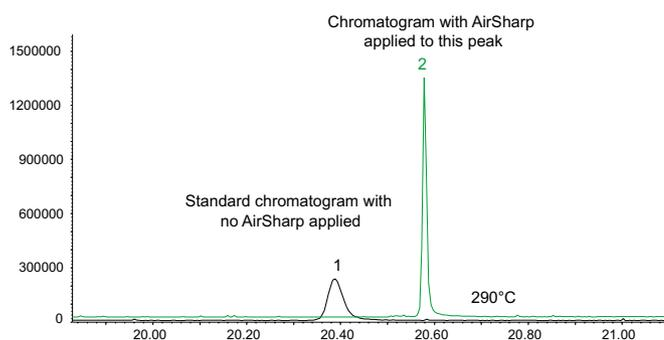

Figure 2. Overlaid chromatogram of a high boiling point compound that has not been subjected to AirSharp (1) and the same peak after AirSharp was applied (2).
The AirSharp is very effective at increasing the signal-to-noise ratio and therefore sensitivity of late high boiling point compounds. High boiling point compounds require high oven temperatures greater than 150°C before elution from the capillary column. These compounds are usually subject to certain degrees of inlet mass discrimination thereby lowering the amount of compound on-column and therefore are often more difficult to detect. These compounds also spend longer in the column so the sample band will be smaller and broad making detection more difficult. By applying AirSharp to these high boiling point compounds on an individual peak basis, the peak can be sharpened and the signal-to-noise ratio increased thereby lowering detection limits. The ambient air that AirSharp uses as its coolant requires an oven temperature of 150°C or higher to be most effective. The ambient air-cools the capillary column by about 80-100°C, thereby slowing the leading edge of the sample band so that eventually the trailing edge will catch it. This process causes the sample band to become very narrow. When the cooling is turned off, the narrowed sample peak is released and travels the short distance through the column to the detector. This results in a very sharp peak shape with a higher signal-to-noise ratio and greater sensitivity (Figure 2).
Figure 2 is an example of the AirSharp being applied to a late eluting peak as part of a Polynuclear Aromatic Hydrocarbon (PAH) mixture. As can be seen from the overlaid chromatogram of the standard chromatogram with no AirSharp applied (1) and the chromatogram with the AirSharp applied (2), there is a huge difference in peak heights and peak shape for this chromatogram. The oven temperature when these compounds eluted was 290°C.
The AirSharp should be activated 12-15 seconds before the front edge of the peak is eluted. This allows enough time to cool the section of the column sufficiently to slow the progress of the sample band so the trailing edge can 'catch up' to the front of the sample band. An example of when to apply AirSharp to a peak is shown in Figure 3. Taking the chromatogram of the PAH sample shown in Figure 2, the AirSharp is turned on at 20.10 minutes. This is approximately 12-15 seconds before the leading edge of peak 1 would normally elute. The AirSharp is then left on until just after peak 1 would normally have finished eluting from the column, which in this example is 20.45 minutes. The AirSharp was only applied for about 20 seconds to the capillary column and as can be seen from Figure 2, the resultant peak (peak 2) elutes at 20.60 minutes. The peak response now is much higher than peak 1 making detection and quantitation easier.